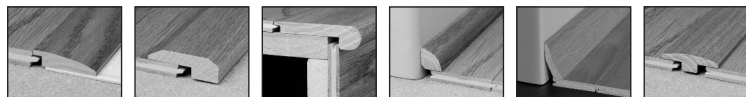

Figure 15
- Using a small plane or knife plane, shave off the ledge off the groove. (Figure 15)